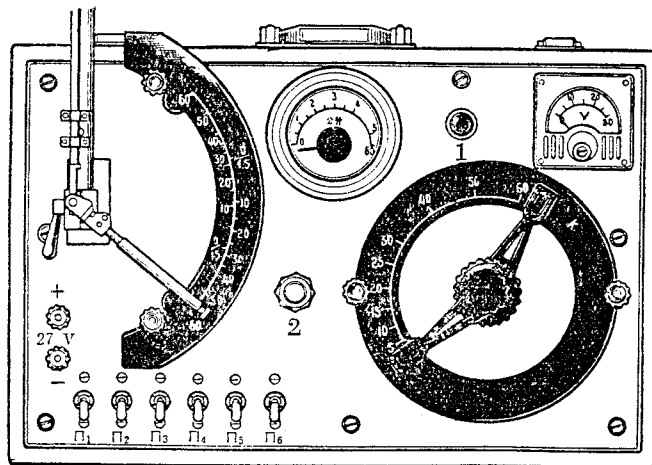

Fig. 3-14 Panel of Fuel Quantity Gauge Tester
(1) Open the upper cover of the transmitter to carry out checking and cleaning.
(2) Check the whole set for the basic error.
A. Fit the transmitter to the fixing frame and connect the cables as shown in Fig. 3-14. And adjust the pointer on the lever of the tester perpendicular to the dial, turn switch  $\Pi_2$  to "TRANSMITTER" and switch  $\Pi_8$  to "2" position. Then, turn on the power supply switch  $\Pi_1$ , adjust the voltage to 27v.